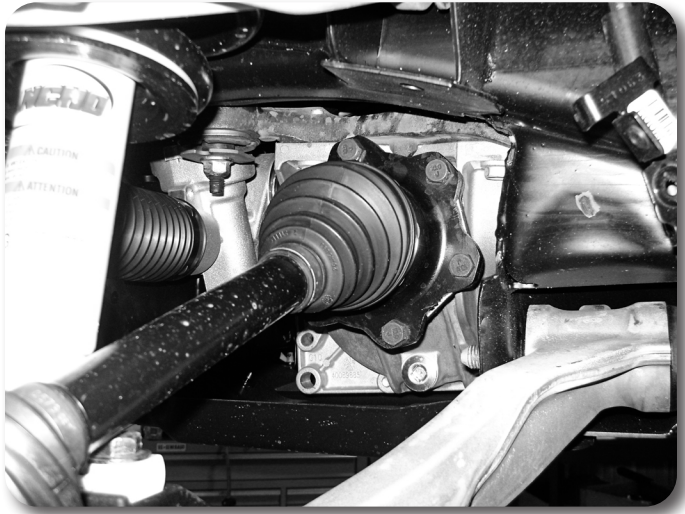

Figure 9
18. Remove the CV shaft mounting flange bolts (6 per side) **Figure 9**. Mark the shaft to indicate driver's or passenger's side. Bolts will not be reused.